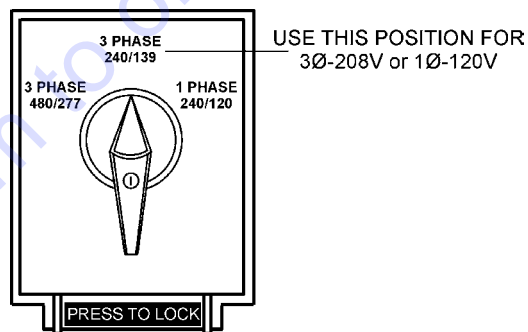

Figure 22. Voltage Selector Switch 3Ø-240/139V Position
1. Place the voltage selector switch in the 3Ø 240/139 position as shown in Figure 22.